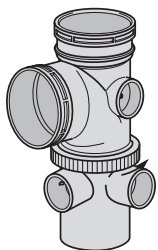

Fig.31a 104.412.92 Variable Boss Branch (spigot outlet) – slackening locking rings
**104.412.92 Variable Boss Branch** (spigot outlet) (Fig.31a-d) OR
**Step 1** – Slacken locking ring (Fig.31a)